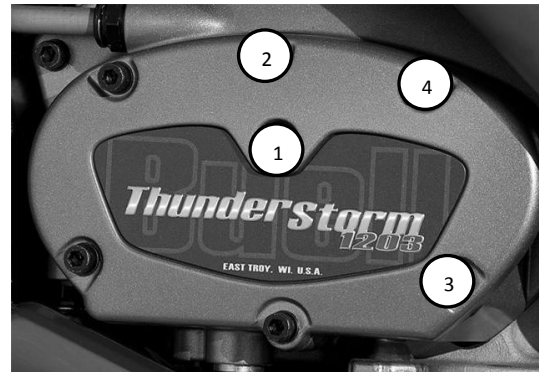
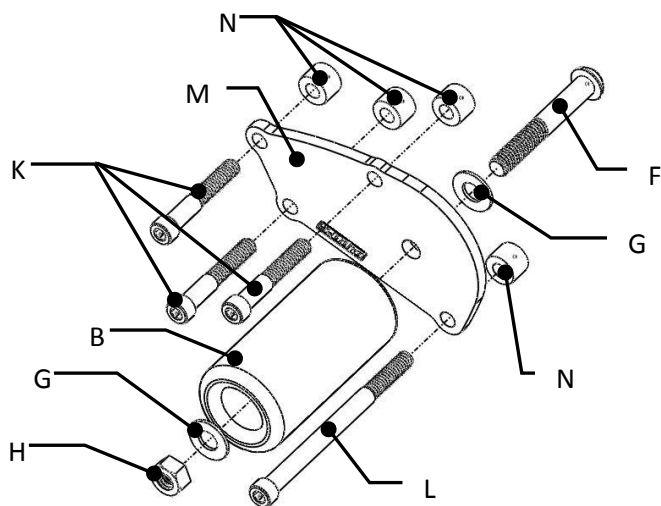

Figure 2: Right Side – 2008-10 (Oil Pump Cover)
Figure 5: Right Side Slider Assembly (2008-10)
1. Remove bolts from locations 1, 2, 3 & 4 per figure 2.
2. Assemble the bolt (item F) through the right plate (item M), slider (item B) and flat washer (item G) per figure 5.
4. Assemble four bolts (items K & L) through right plate (item M), & through spacers (item N) per figure 5, then thread through the oil pump Cover at locations 1, 2, 3 & 4 per figure 2. **⚠WARNING! DO NOT USE THREAD- LOCKER ON THESE BOLTS!**